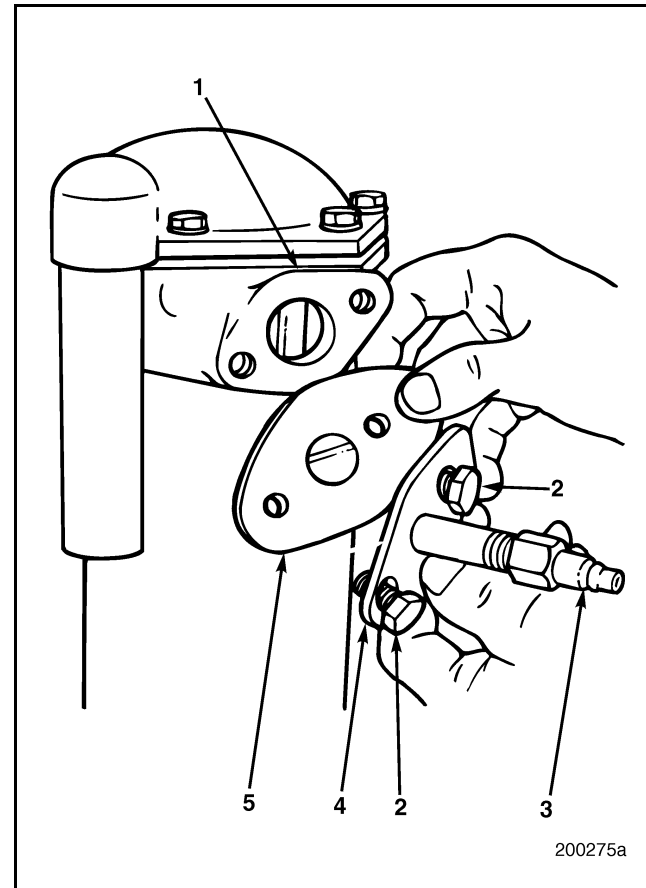

Figure 222 — Installing Test Plate
- a. Position a rubber gasket (5) and test plate (4) on the mounting flange (1) and secure the plate with mounting capscrews (2) as shown in Figure 222.